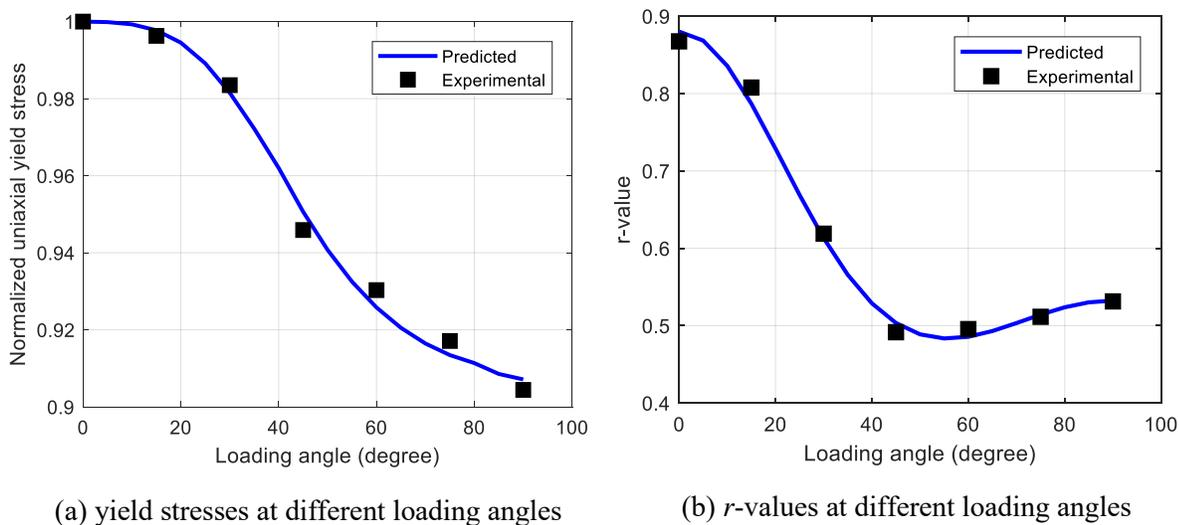

Figure 2 Yield stresses and  $r$ -values predicted by LS-DYNA® as compared to experimental data
The parameter set ( $c'_1, c'_2, c'_3, c'_6$ ) optimized by LS-OPT® is listed in Table 2 and the predicted yield stresses based on this parameter set are compared with experimental values in Figure 2(a).
The values of  $(\hat{c}_1, \hat{c}_2, \hat{c}_3, \hat{c}_6)$  after LS-OPT® optimization are listed in Table 2 and Figure 2(b) plots the predicted  $r$ -values based on the optimized parameter set as compared to the experimental values. As a reference, we also listed the anisotropic parameters for AA2008-T4 found from the literature [3] in Table 2. As expected, the values are close but not identical, due to the fact that (1) results by LS-OPT® are based on LS-DYNA®'s implementation of the theoretical model, i.e., material type 263; (2) different numerical procedures are employed during the optimization process; (3) optimization usually finds a local minimum which is dependent on the search range and initial guess.